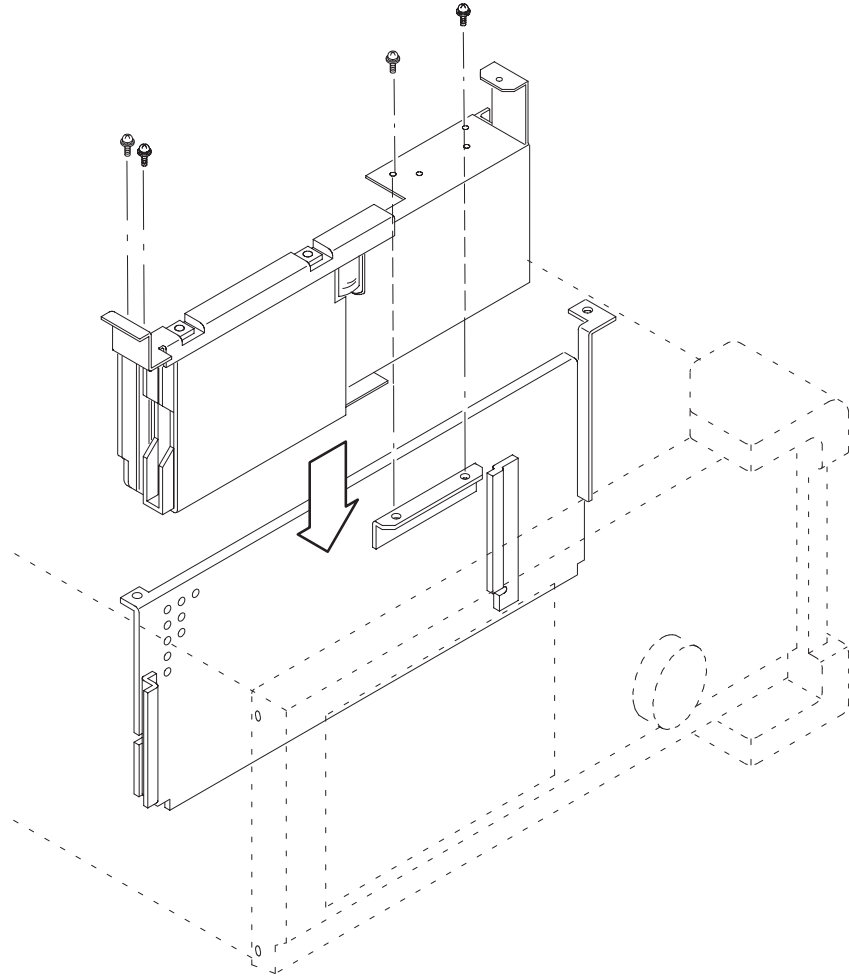

Figure 13: New disk unit installation
- a. Install the screws (removed from the old assembly) by reversing step 2 in the *Disk Unit* procedure on page 12. See Figure 13 for the new unit.